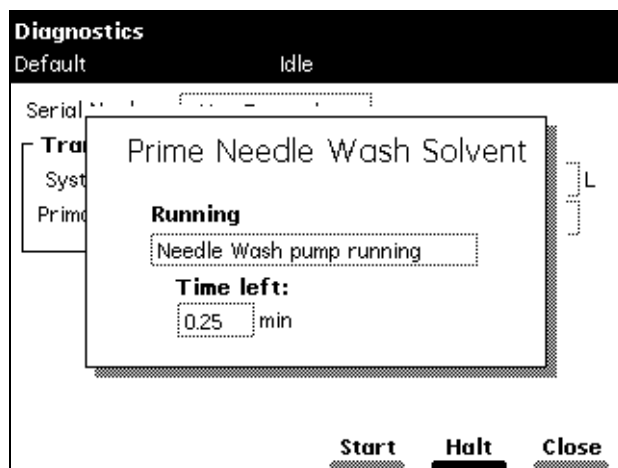

Figure 3-20 Prime Needle Wash Solvent Dialog Box
5. Press the **Prime NdiWash** screen key. The Prime Needle Wash Solvent dialog box appears (Figure 3-20).